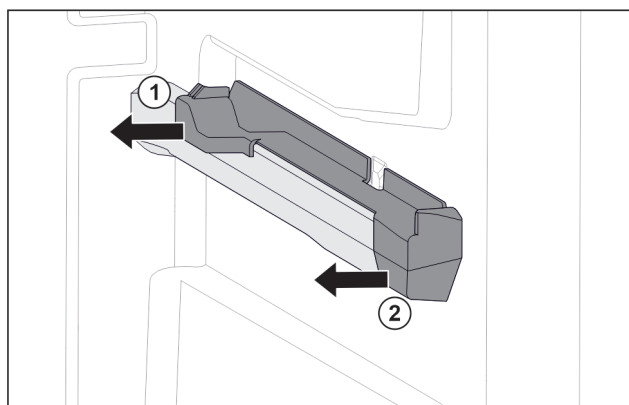

Fig. 146 Attachment on the right moulded rib
- Pull off attachment at the back sideways. Fig. 146 (1)
- Pull off attachment at the front sideways. Fig. 146 (2)